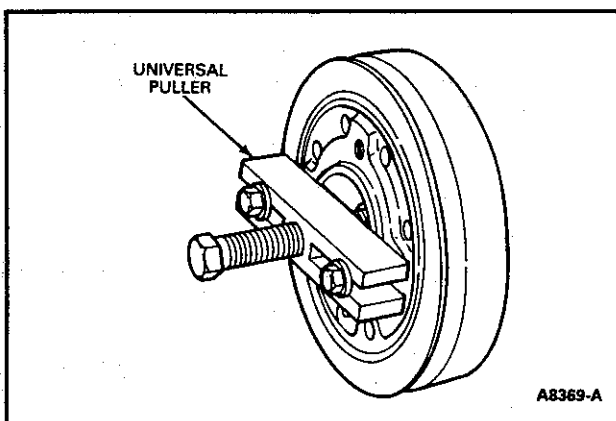

Figure 54 Removing Crankshaft Vibration Damper
3. Remove the crankshaft pulley from the crankshaft vibration damper. Remove the damper attaching screw and washer. Install the puller on the crankshaft vibration damper (Figure 54) and remove the vibration damper.